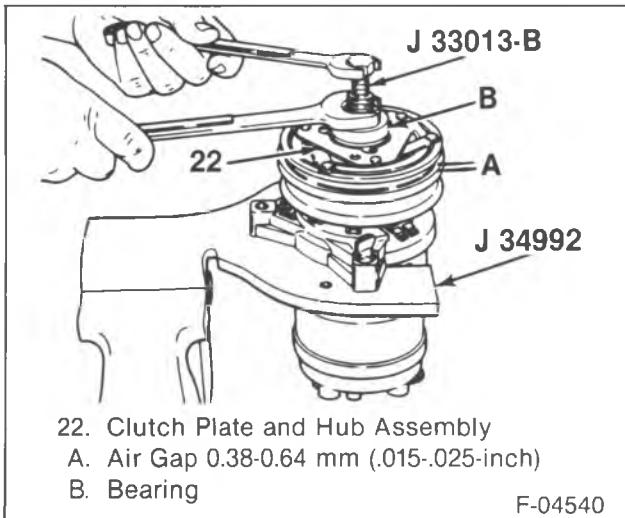

Figure 8—Installing the Clutch Plate and Hub Assembly
- Do not drive or pound on the clutch hub or the shaft (38). Internal damage to the compressor may result.
2. Clutch plate and hub assembly (22) (figure 8).
- Make sure the contact surfaces of the clutch plate (22) and the pulley (26) are clean.
- Install J 33013-B with bearing (B) (figure 8).
- Back off J 33013-B body enough to allow the center screw to be threaded against the end of the compressor shaft (38).
- Hold the center screw with a wrench and tighten the hex portion of J 33013-B body while pressing the hub onto the shaft (38). After tightening the body several turns, remove J 33013-B and check that the shaft key (21) is